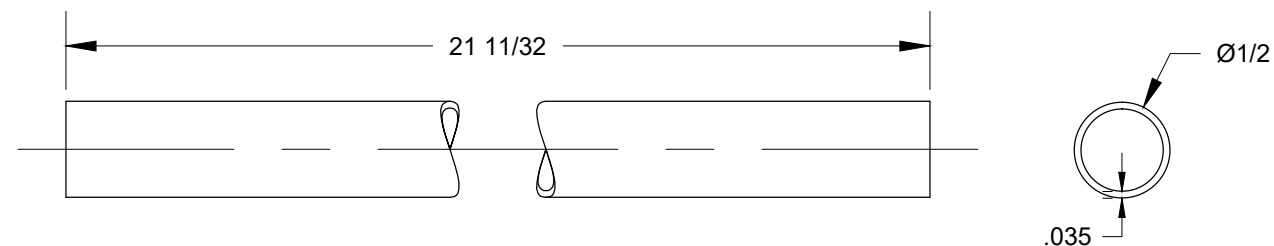

FIGURE 1:
Step 1: Fabricate two W-1018A Bellcrank to Aileron Pushrods by cutting two pieces of ST4130-035 X 1/2 to the length shown in Figure 1.